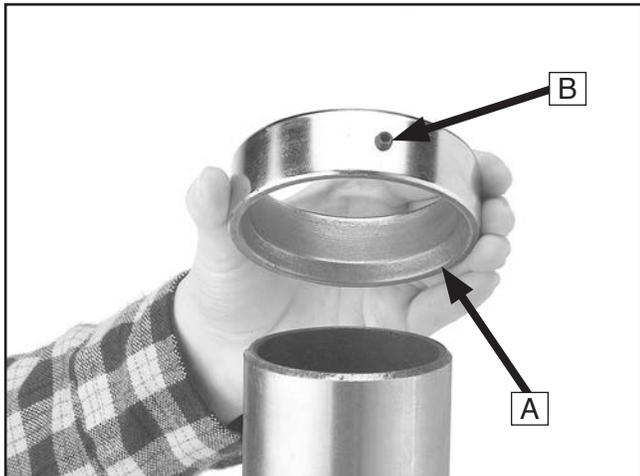

Figure 12. Correct column collar orientation.
5. **T34611 Only:** Slide the column collar over the column with the beveled edge (see **A** in **Figure 12**) facing down, then fit the beveled edge of collar over rack and tighten the set screw (see **B** in **Figure 12**) to secure.